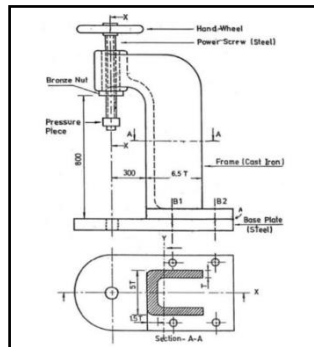

Figure 13.1. Hand press
- After completing on one side report the same on other side figure 13.1